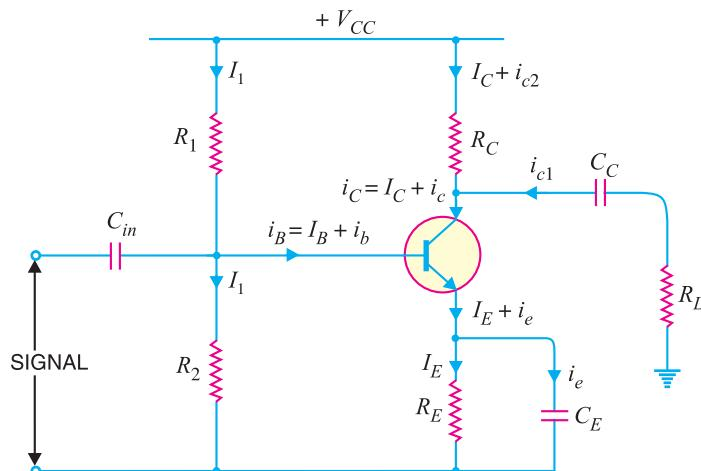

Fig. 10.3
It is important to note that a transistor can accomplish faithful amplification only if proper associated circuitry is used with it. Fig. 10.3 shows a practical single stage transistor amplifier. The various circuit elements and their functions are described below :
**Various circuit currents.** It is useful to mention the various currents in the complete amplifier circuit. These are shown in the circuit of Fig. 10.3.
**Example 10.1.** What is the role of emitter bypass capacitor  $C_E$  in CE amplifier circuit shown in Fig. 10.3 ? Illustrate with a numerical example.
**Solution.** The emitter bypass capacitor  $C_E$  (See Fig. 10.3) connected in parallel with  $R_E$  plays an important role in the circuit. If it is not used, the amplified a.c. signal flowing through  $R_E$  will cause a voltage drop across it, thereby reducing the a.c. output voltage and hence the voltage gain of the amplifier.